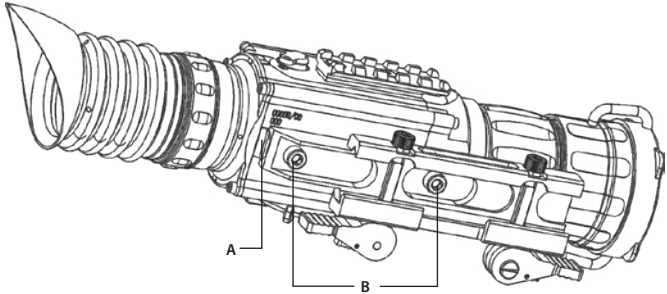

FIGURE 3-2. THE DRONE PRO FULLY ASSEMBLED WITH THE MOUNT
The Drone PRO comes fully-assembled with a Picatinny/Weaver mount (Figure 3-2). The mount (A) is attached to the Drone PRO seating rail with two M4x20 flathead socket cap screws (B).